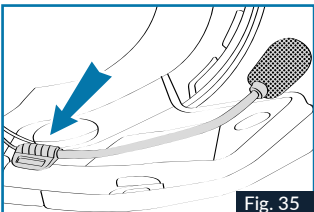

Fig. 35
7. Position the microphone and attach it with the supplied Velcro piece to the polystyrene on the left cheek as shown in Fig. 35.